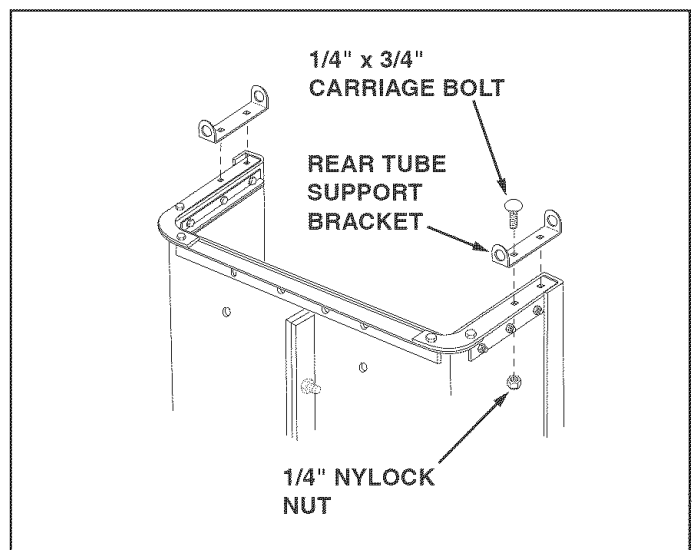

FIGURE 3
- Assemble the Rear Tube Support Brackets to the tailgate reinforcement bracket using four 1/4" x 3/4" carriage bolts and 1/4" nylock nuts. **Do not tighten yet.** See figure 3.